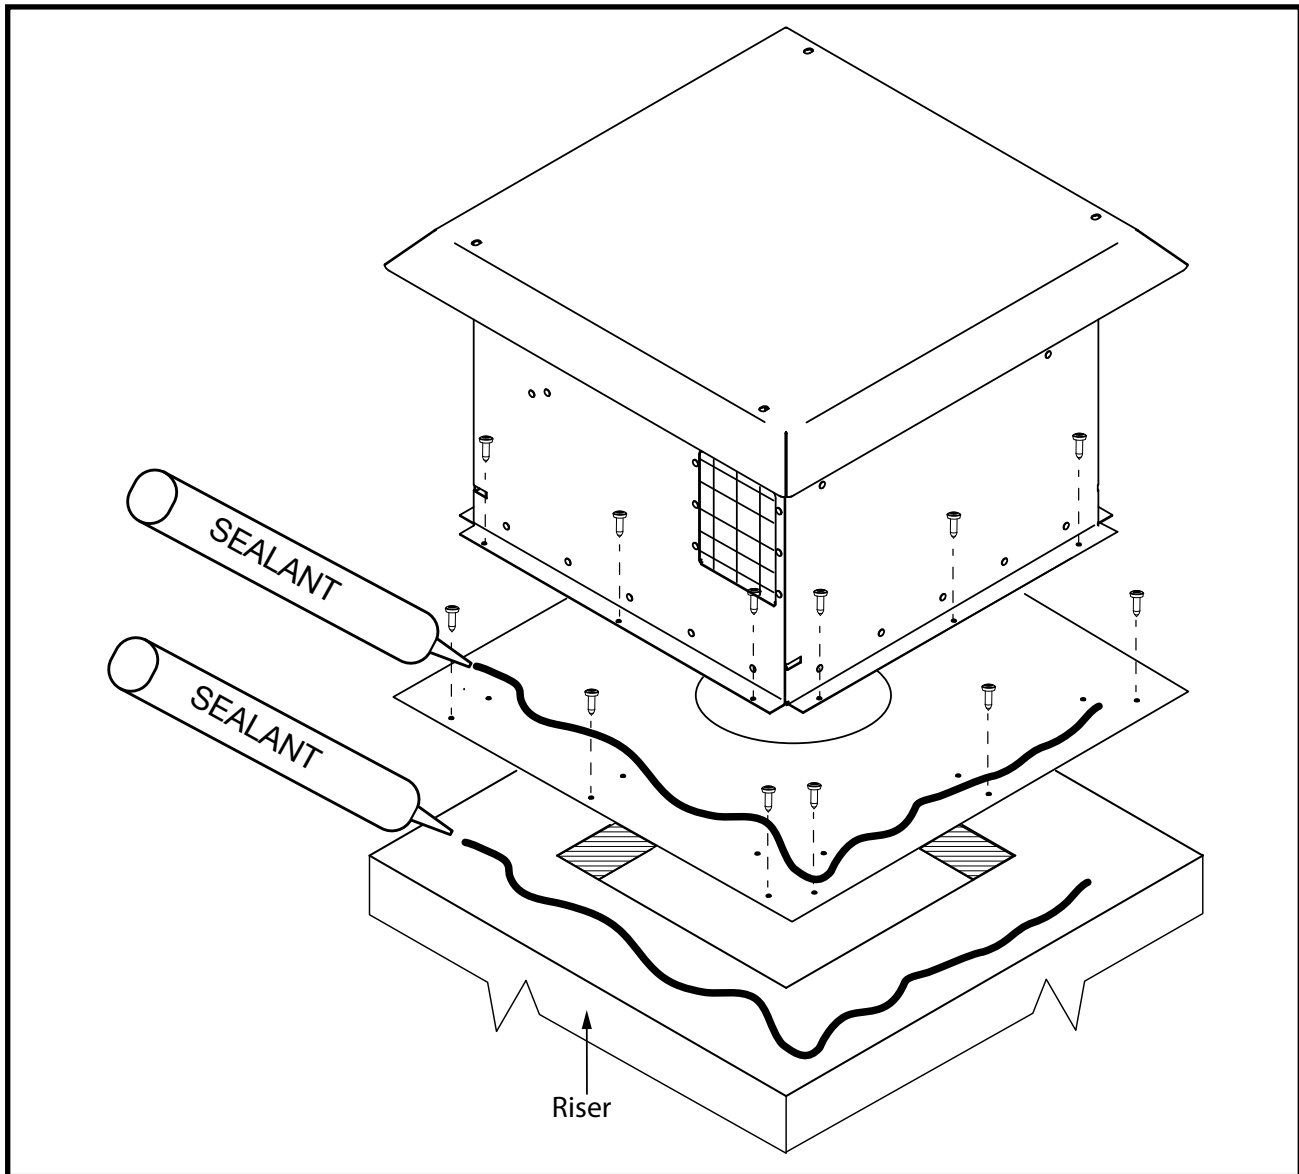

Figure 8: Power vent attachment.
- Use Weather Sealant between the base of the power vent terminal and plates and the riser as necessary to prevent moisture from entering the power vent unit and building (Figure 8). Flash according to local codes.